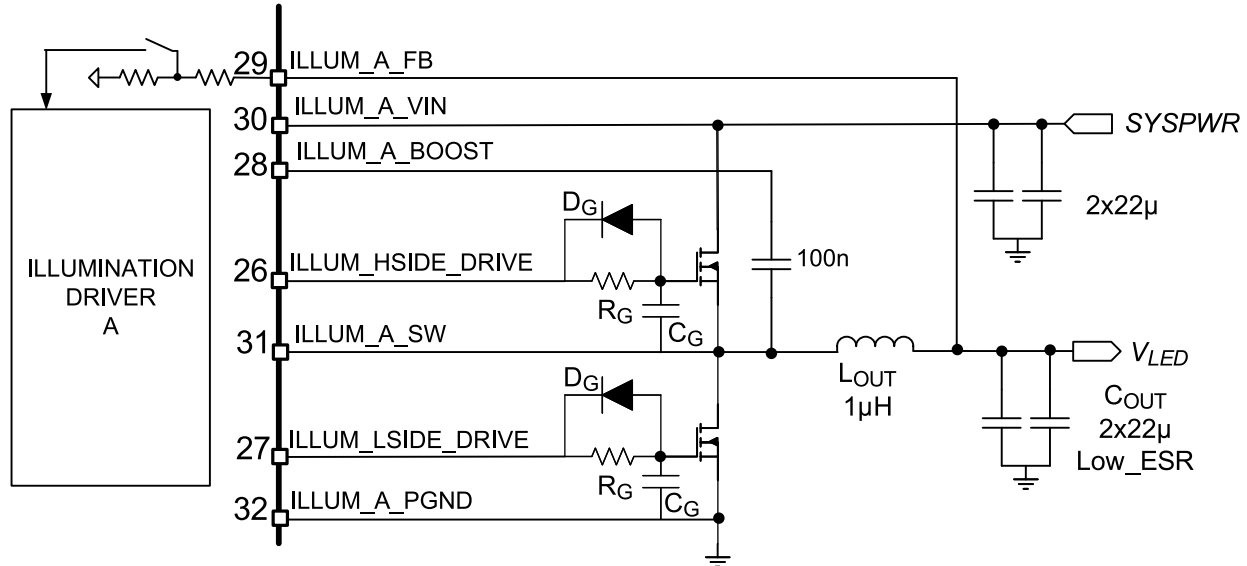
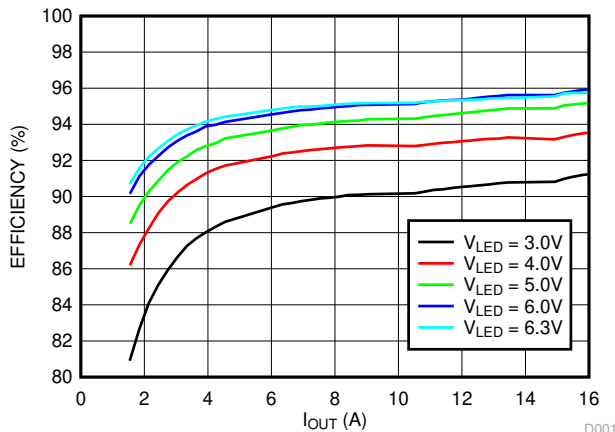

Figure 6-4. Typical Illumination Driver Configuration
Figure 6-10. Illumination Driver Plus Power FETs Efficiency ($V_{ILLUM_A_IN} = 12\text{V}$)
The illumination driver of the DLPA3085 is a buck controller for driving two external low-ohmic N-channel FETs (Figure 6-4). The theory of operation of a buck converter is explained in the application note *Understanding Buck Power Stages in Switchmode Power Supplies* (SLVA057). For proper operation, the selection of the external components is very important, especially the inductor L_{OUT} and the output capacitor C_{OUT} . For best efficiency and ripple performance, an inductor and capacitor should be chosen with low equivalent series resistance (ESR). Set the voltage rating of the capacitor equal or greater than two times of the applied voltage across the capacitor in the application.
Figure 6-10 shows an overview of the efficiency of the illumination driver plus power FETs for an input voltage of 12V. The external components (Figure 6-4): high-side FET (L) CDS17506Q5A, low-side FET (M) CDS17501Q5A, $L_{OUT} = 2 \times 2.2\mu\text{H}$ parallel, $C_{OUT} = 88\mu\text{F}$. The efficiency is shown for several output voltage levels (V_{LED}) versus output current.